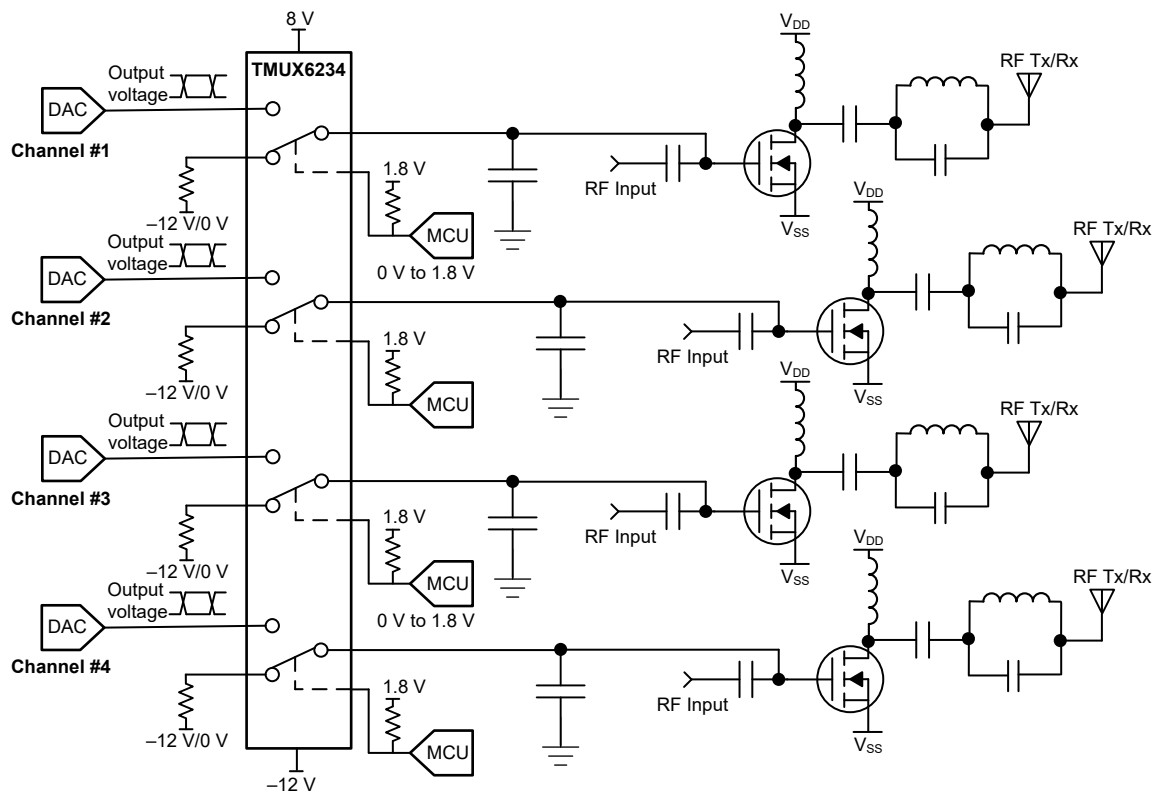

Figure 9-1. Power Amplifier Gate Driver
Figure 9-1 shows the TMUX6234 configured for control of a multi-channel power amplifier application.
The application shown in 图 9-1 demonstrates how to toggle between the DAC output and a low signal voltage for control of a power amplifier. A device such as the TMUX6234 that supports multiple supply voltage combinations allows the system designer to use a single switch across platforms with different power amplifier topologies such as GaN or LDMOS implementations. Using a multi-channel switch like the TMUX6234 allows the system to improve density by implementing a smaller solution size. Multiple channels of the TMUX6234 can be utilized to switch additional stages of a single power amplifier channel. Or multiple channel switches can be used on different power amplifier stages in high channel count communications equipment such as a 32 transmit (TX), 32 receive (RX) active antenna system mMIMO (AAS). Each channel of the TMUX6234 has independent control signals allowing for overall system flexibility. The DAC output is utilized to bias the gate of the power amplifier and can be disconnected from the circuit using the select pins of the switch or the global enable pin. The TMUX6234 can support 1.8 V logic signals on the control input, allowing the device to interface with low logic controls of an FPGA or MCU. All inputs to the switch must fall within the recommended operating conditions of the TMUX6234 including signal range and continuous current. For this design with a positive supply of 8 V on V_{DD} , and negative supply of -12 V on V_{SS} , the signal range can be 8 V to -12 V. The maximum continuous current (I_{DC}) is captured in the *Recommended Operating Conditions* table for a range of supply voltage cases.